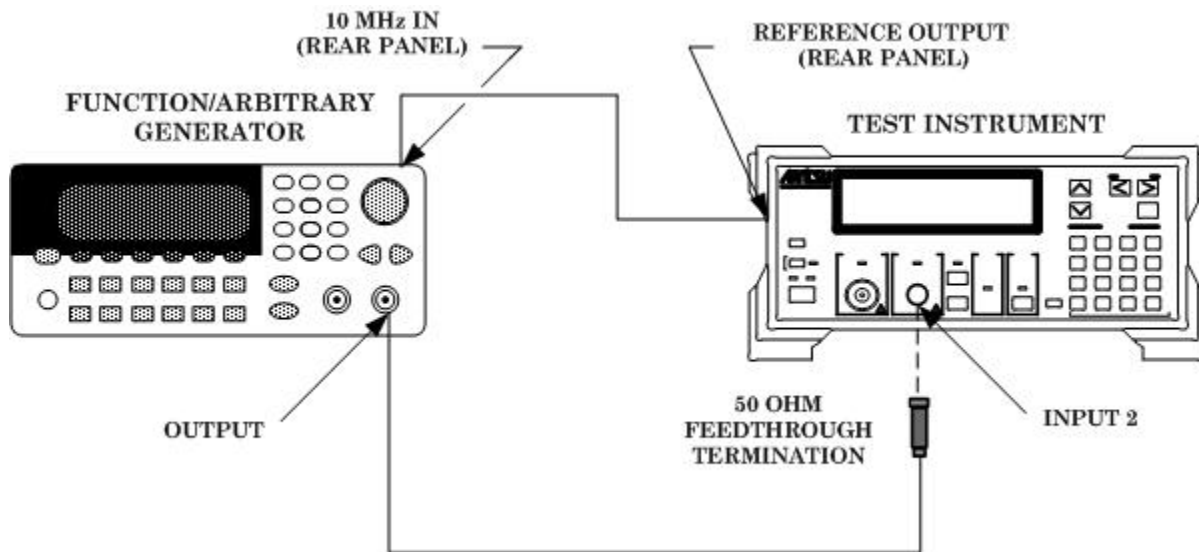

Figure 1. Input 2 sensitivity ($1M \Omega$).
(1) Connect equipment as shown in figure 1.